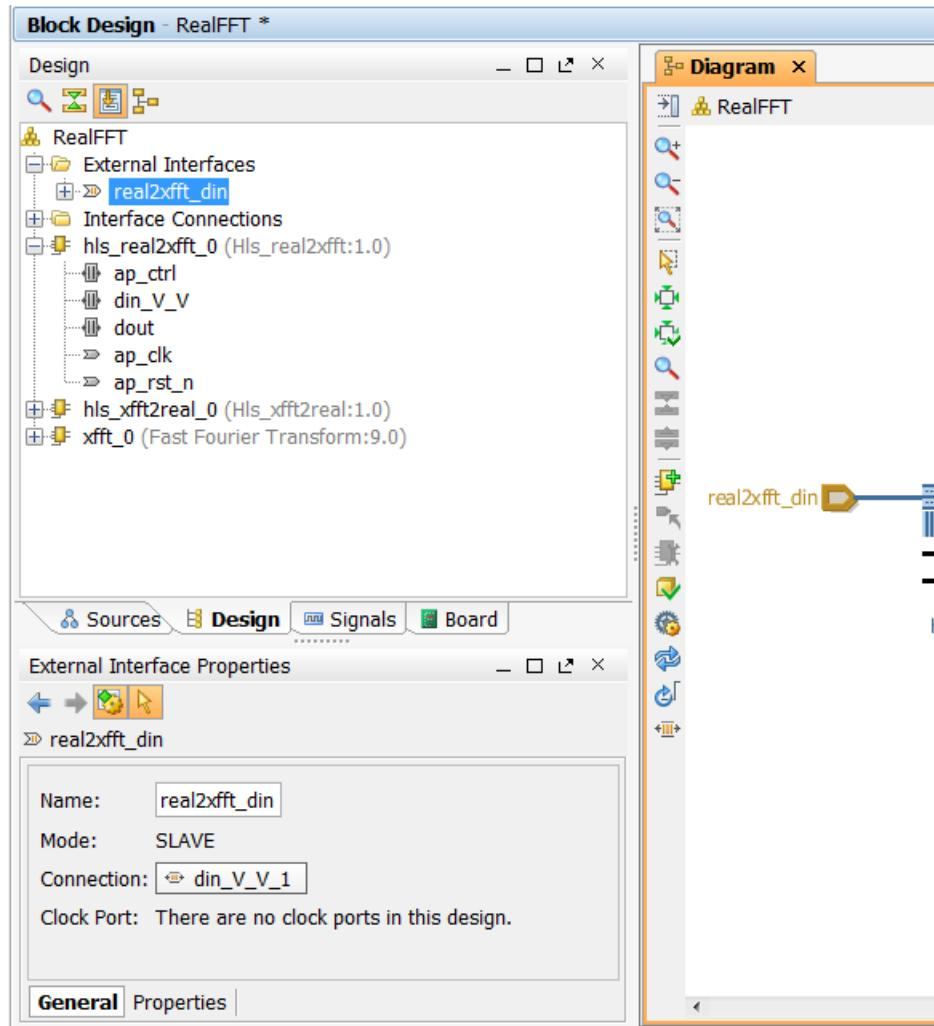

Figure 9-22: Port Naming
- In the External Interface Properties pane (Figure 9-22), double-click in the Name text entry box to highlight **din_V**.